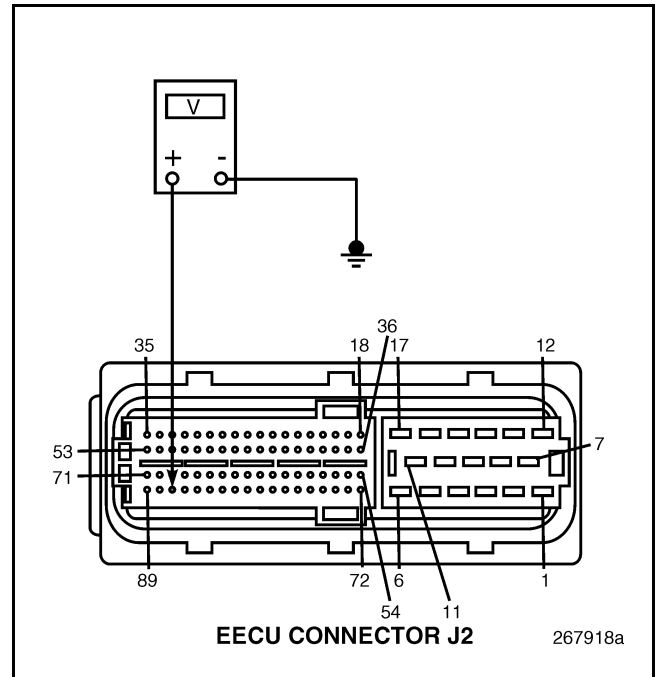

Figure 155
4. Measure the voltage between EECU connector J2 pin 87 and a good ground (see Figure 155).